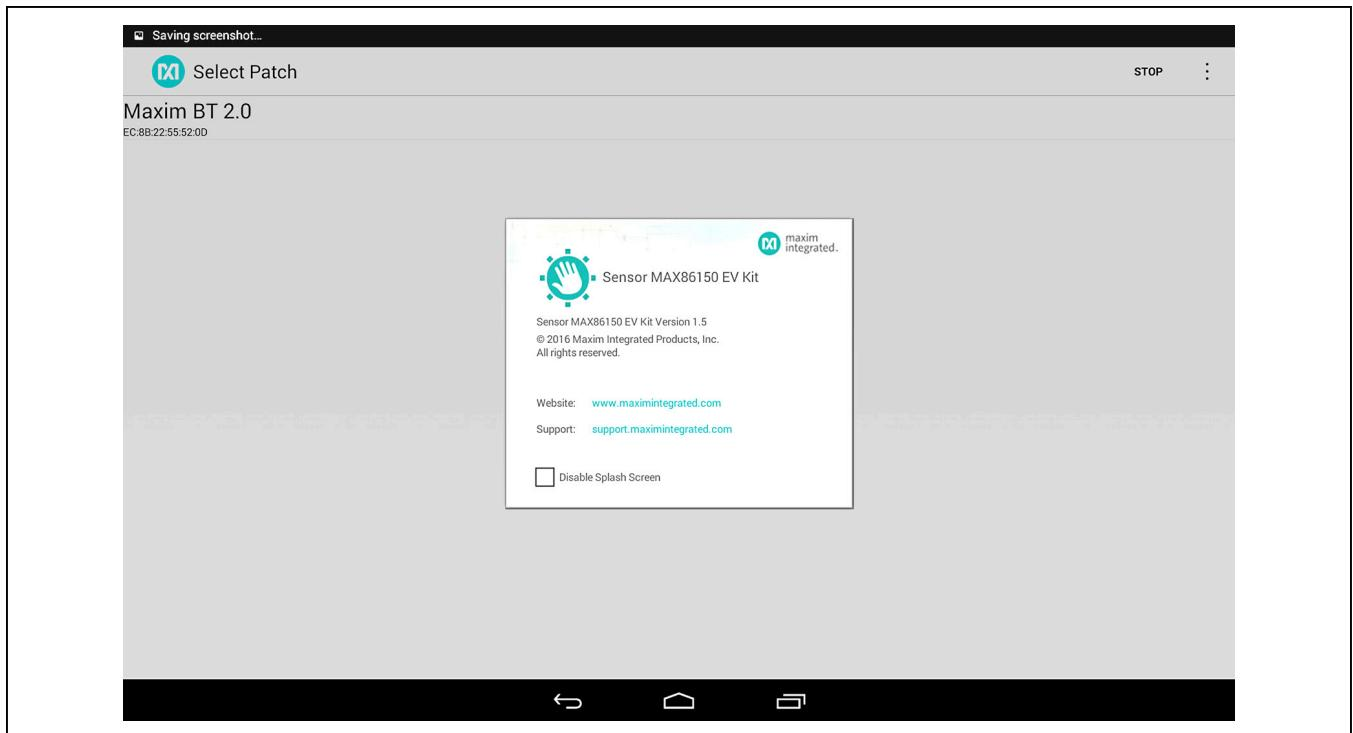

Figure 4. MAX86150 EVKIT Application Splash Screen
- 5) The splash page will first appear as in Figure 4.